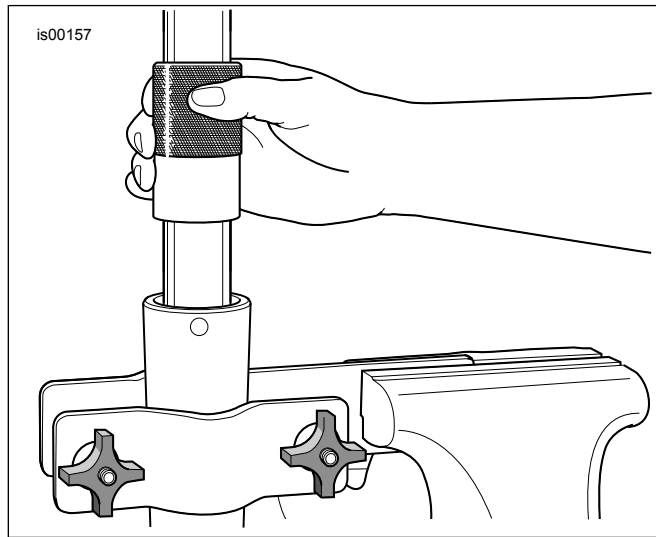
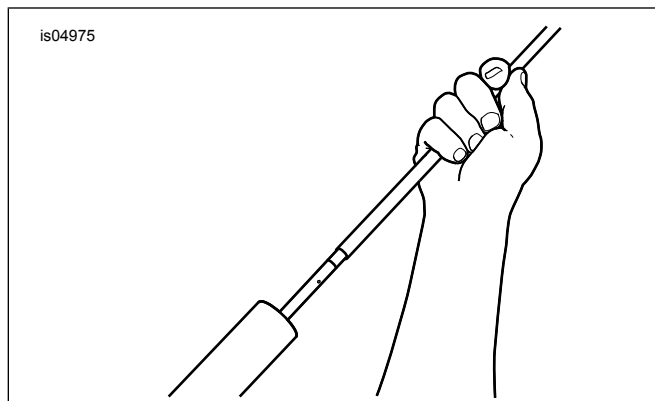

Figure 2. Install Fork Oil Seal
Figure 6. Pump Damper Rod Extension Tool
2. Insert spring (12) and spring collar (J) into fork tube, with dense section of coils toward damper tube. Push bottom of damper tube through the opening at the bottom end of the fork tube. Place oil lock (K) over end of damper tube.
3. Apply Loctite 565 Thread Sealant to screw (14). Position fork tube and damper tube in fork slider (L). Hold the assembly in place by exerting pressure on the spring. Install screw (14) with copper washer (10) from kit.
5. Coat inner diameter (ID) and outer diameter (OD) of slider bushing (H) with clean fork oil. Slide slider bushing down fork tube (either direction).
6. Slide slider washer (G) down fork tube until it contacts slider bushing (either direction).
7. Coat the ID of the **new** fork oil seal (8) with clean fork oil. Coat the OD of the fork oil seal with Harley-Davidson Seal Grease. With the lettering side facing up, slide fork oil seal down the fork tube until it contacts the slider washer.
8. See Figure 2. Obtain the Fork Seal/Bushing Tool (HD-45305) and proceed as follows:
- b. See Figure 2. Using the tool like a slide hammer, drive fork oil seal (with slider washer and slider bushing) down the fork tube until retaining clip groove is visible in fork slider ID.
2. Keep the fork compressed and remove it from the fork tube holder. Clamp the fork slider right-side up in the fork tube holder. Slide the damper cartridge (7) into the fork assembly so that it seats in the center of the oil lock.
4. Apply Loctite 565 Thread Sealant to screw (11). Install screw with copper washer (10) from kit. Slide screw through hole at bottom of fork slider and start into end of damper cartridge.
6. Install **new** fork spring (6) into fork tube (D), with dense section of coils toward damper cartridge.
9. Coat slider bushing (H) ID and OD with clean fork oil. Slide slider bushing down fork tube (either direction).
10. Slide slider washer (G) down fork tube until it contacts slider bushing (either direction).
11. Coat the ID of the **new** fork oil seal (8) with clean fork oil. Coat the OD of the fork oil seal with Harley-Davidson Seal Grease. With the lettering side facing up, slide fork oil seal down the fork tube until it contacts the slider washer.
12. See Figure 2. Obtain the Fork Seal/Bushing Tool (HD-45305) and proceed as follows:
- c. Slide the retaining clip (F) down the fork tube until it contacts the fork oil seal. Install retaining clip in the fork slider groove. Do not expand or stretch retaining clip to install on fork tube or clip may be damaged.
- a. See Figure 6. Thread extension tool onto end of damper rod.